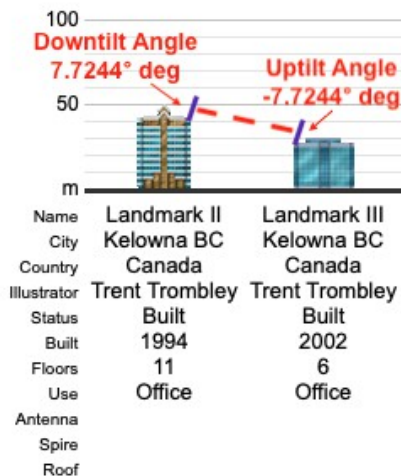

Figure 3
cable with shielded connector. If there is no PoE device in the electrical room to connect to the base station then the PoE injector cable can be used in conjunction with a 50ft extension cord to reach a power supply located on the roof. Attach grounding wire to the grounding screw, then attach the other end of the grounding wire to the grounded mast. The antenna must be installed at an downtilt angle of 7.7244° degrees based on calculations below. (Fig. 3)
2.2.3 Point-to-point Connection – Landmark 3: To connect services from the meet-me room on the basement floor to the roof will require a minimum of 35m of Cat8 ethernet cable. A 150ft cable is suggested for this solution to give some extra leway. The pole mount will need to be installed on the SE corner of the roof. It is suggested that one (1) PoE UniFi EdgeSwitch 16XP be installed in the wiring closet of the basement and this will serve as both a power source and data connection for the base station. During installation the base station should be connected to ethernet port 1 on the switch. Attach grounding wire to the grounding screw, then attach the other end of the grounding wire to the grounded mast. The antenna must be installed at an uptilt angle of -7.7244° degrees based on calculations below. (Fig. 3)